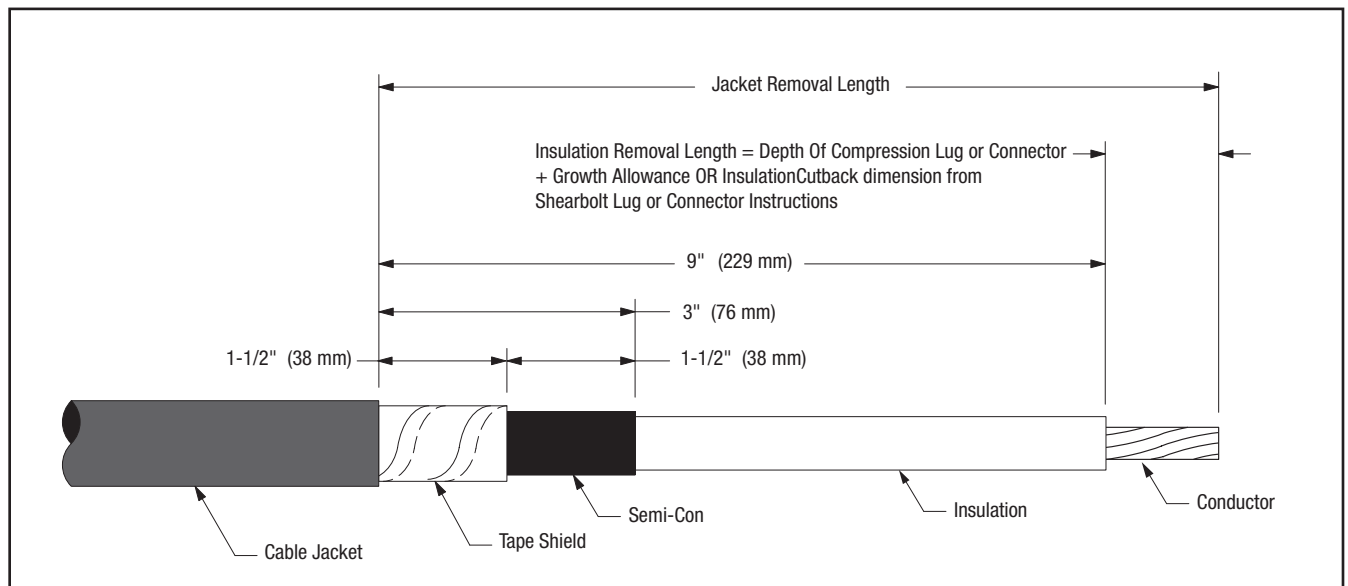

Figure 1
- 2.2 Prepare cable using dimensions shown in Figure 1. **BE SURE TO ALLOW FOR DEPTH OF TERMINAL LUG OR CONNECTOR.** If necessary to prevent tape shield from unrolling, hold down edge with a single wrap of 3M EMI Copper Foil Shielding Tape 1181. If using 3M Shearbolt Lugs QL2 Series: Two Hole, or 3M Mechanical Shearbolt Connector QCI Series, proceed to Step 2.3. If using a Crimp Type (Compression) lug, measure the depth of the barrel, or if using a Crimp Type (Compression) connector, measure to the barrel center stop/midpoint, and see the NOTE below in order to calculate the Insulation Removal Length. Table 4 can be used to assist in calculating the total Jacket Removal Length when using a compression lug or connector.